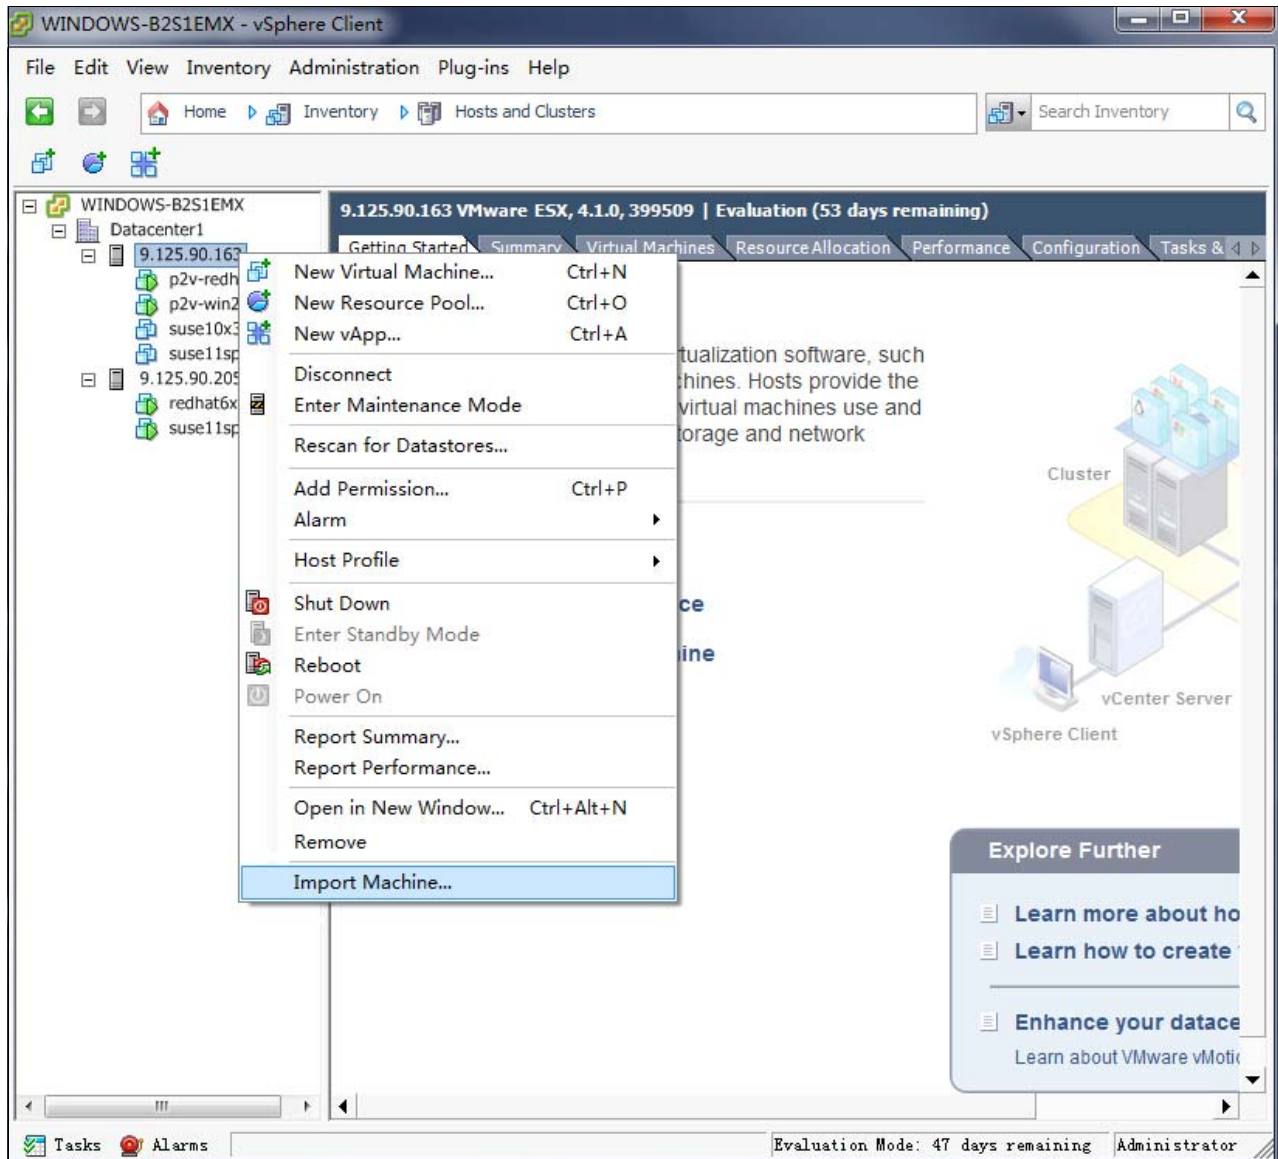

Figure 3-35 Import Machine
4. Right-click the target server to which you want to migrate and click **Import Machine**, as shown in Figure 3-35. The Import Machine wizard starts.